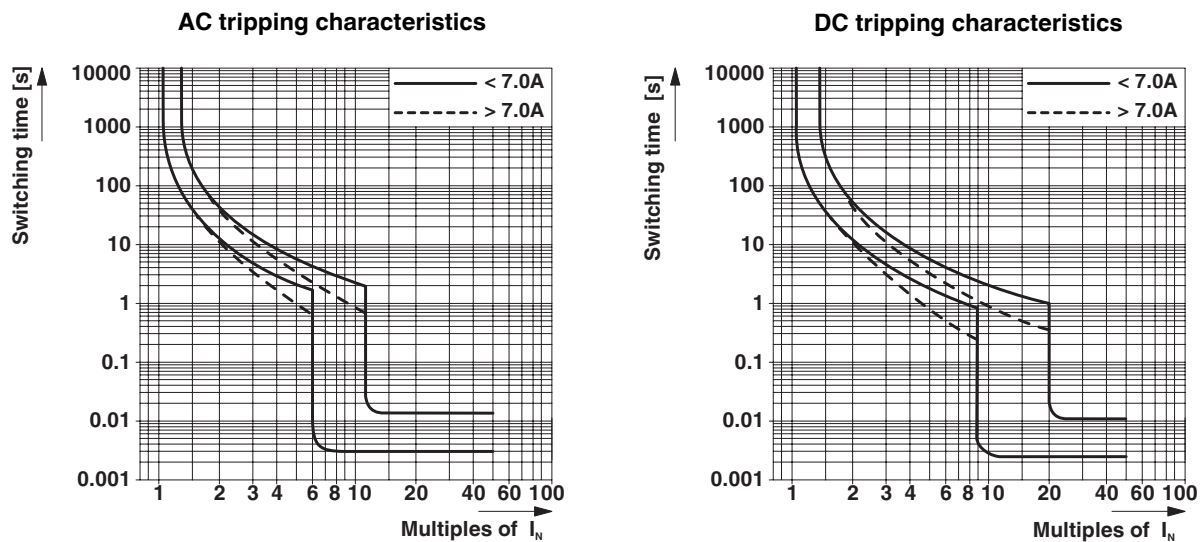

Figure 1 AC and DC tripping characteristics
**NOTE:** The magnetic tripping ranges differ for alternating currents (AC) and direct currents (DC). Please observe the tripping characteristics shown in Figure 1.